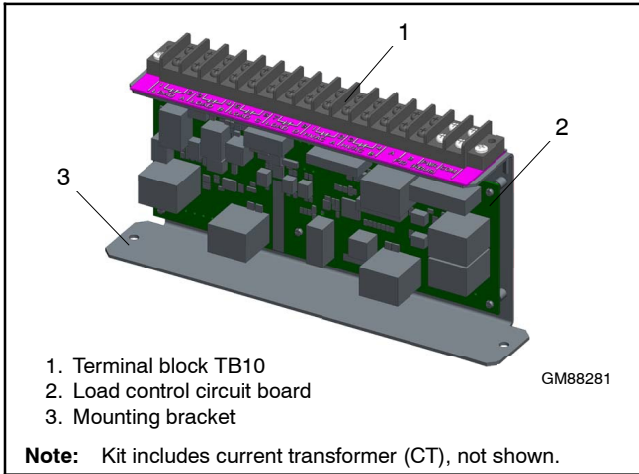

Figure 2-3 Load Shed Assembly (mounts inside the RDT or RXT transfer switch enclosure)
- The optional Load Shed Kit mounts inside a model RDT or RXT transfer switch. Figure 2-3 shows the load shed assembly.